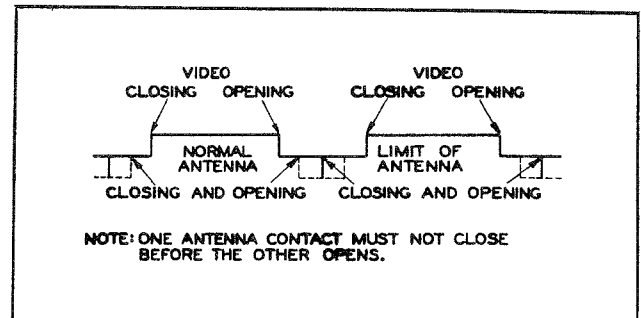

Figure 5-39. Antenna-Video Switch, Waveform Showing Limits of Antenna Switch Setting
(11) It was noted in subparagraph (6) above that antenna contact adjustment may vary slightly. This means that the left antenna contact may open at about the same time the right antenna contact closes, as shown in figure 5-39. However, the right antenna contact must not close *before* the left antenna contact opens.